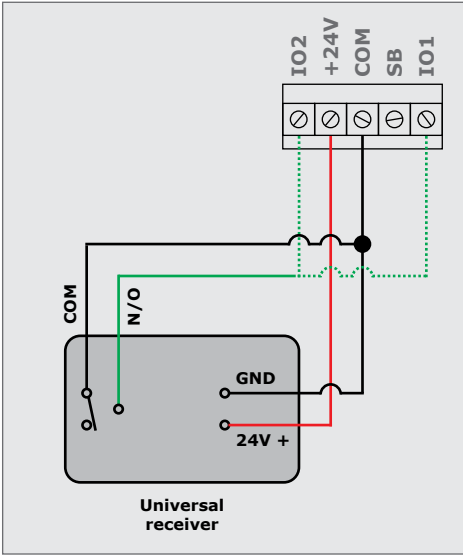

FIGURE 82. WIRING A UNIVERSAL RECEIVER TO THE SDO4 SMART
- The trigger/TRG (green wire) in Figures 82, 83 and 84 can be either wired into IO1 or IO2, depending on the sites individual needs